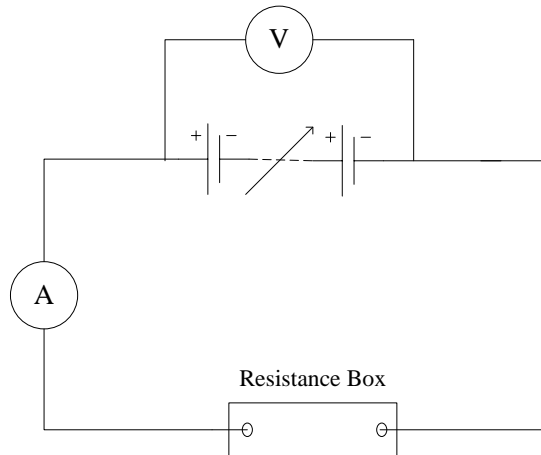

Fig. 1
2. Set the resistance box to  $100\ \Omega$  and connect the equipment as shown in Fig.1.